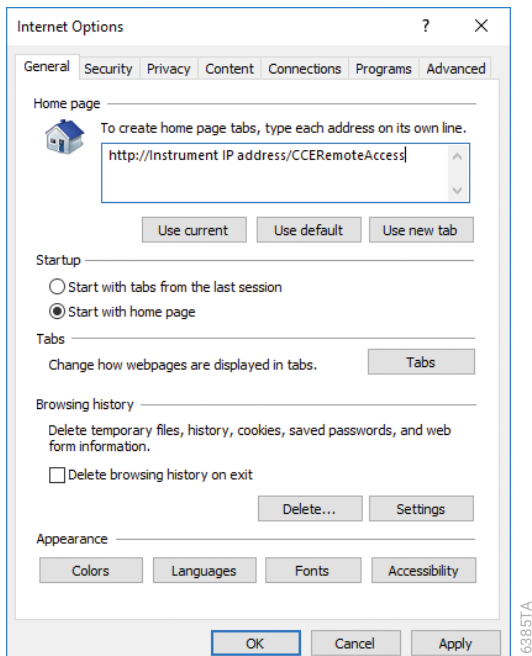
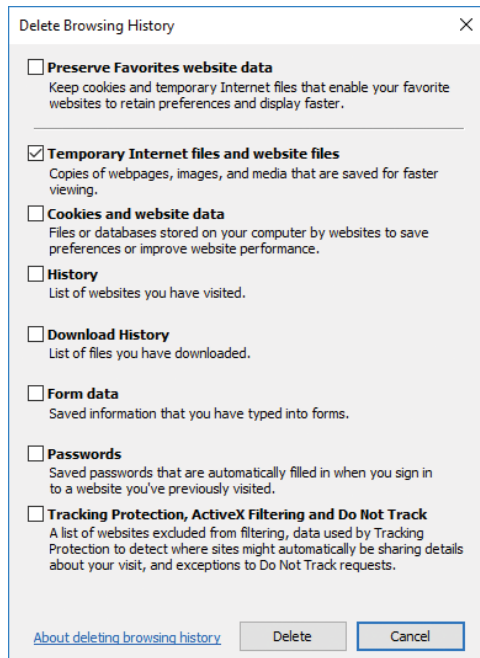

Figure 121. 'Internet Options' window.
Figure 122. 'Delete Browsing History' window.
2. When the 'Internet Options' window is displayed, select **Delete** in Browsing History at the bottom of the 'General' tab (Figure 121). The 'Delete Browsing History' window pops up (Figure 122).
3. Check **Temporary Internet files and Web site files**, and then select **Delete** at the bottom (Figure 122). The cache is now deleted.